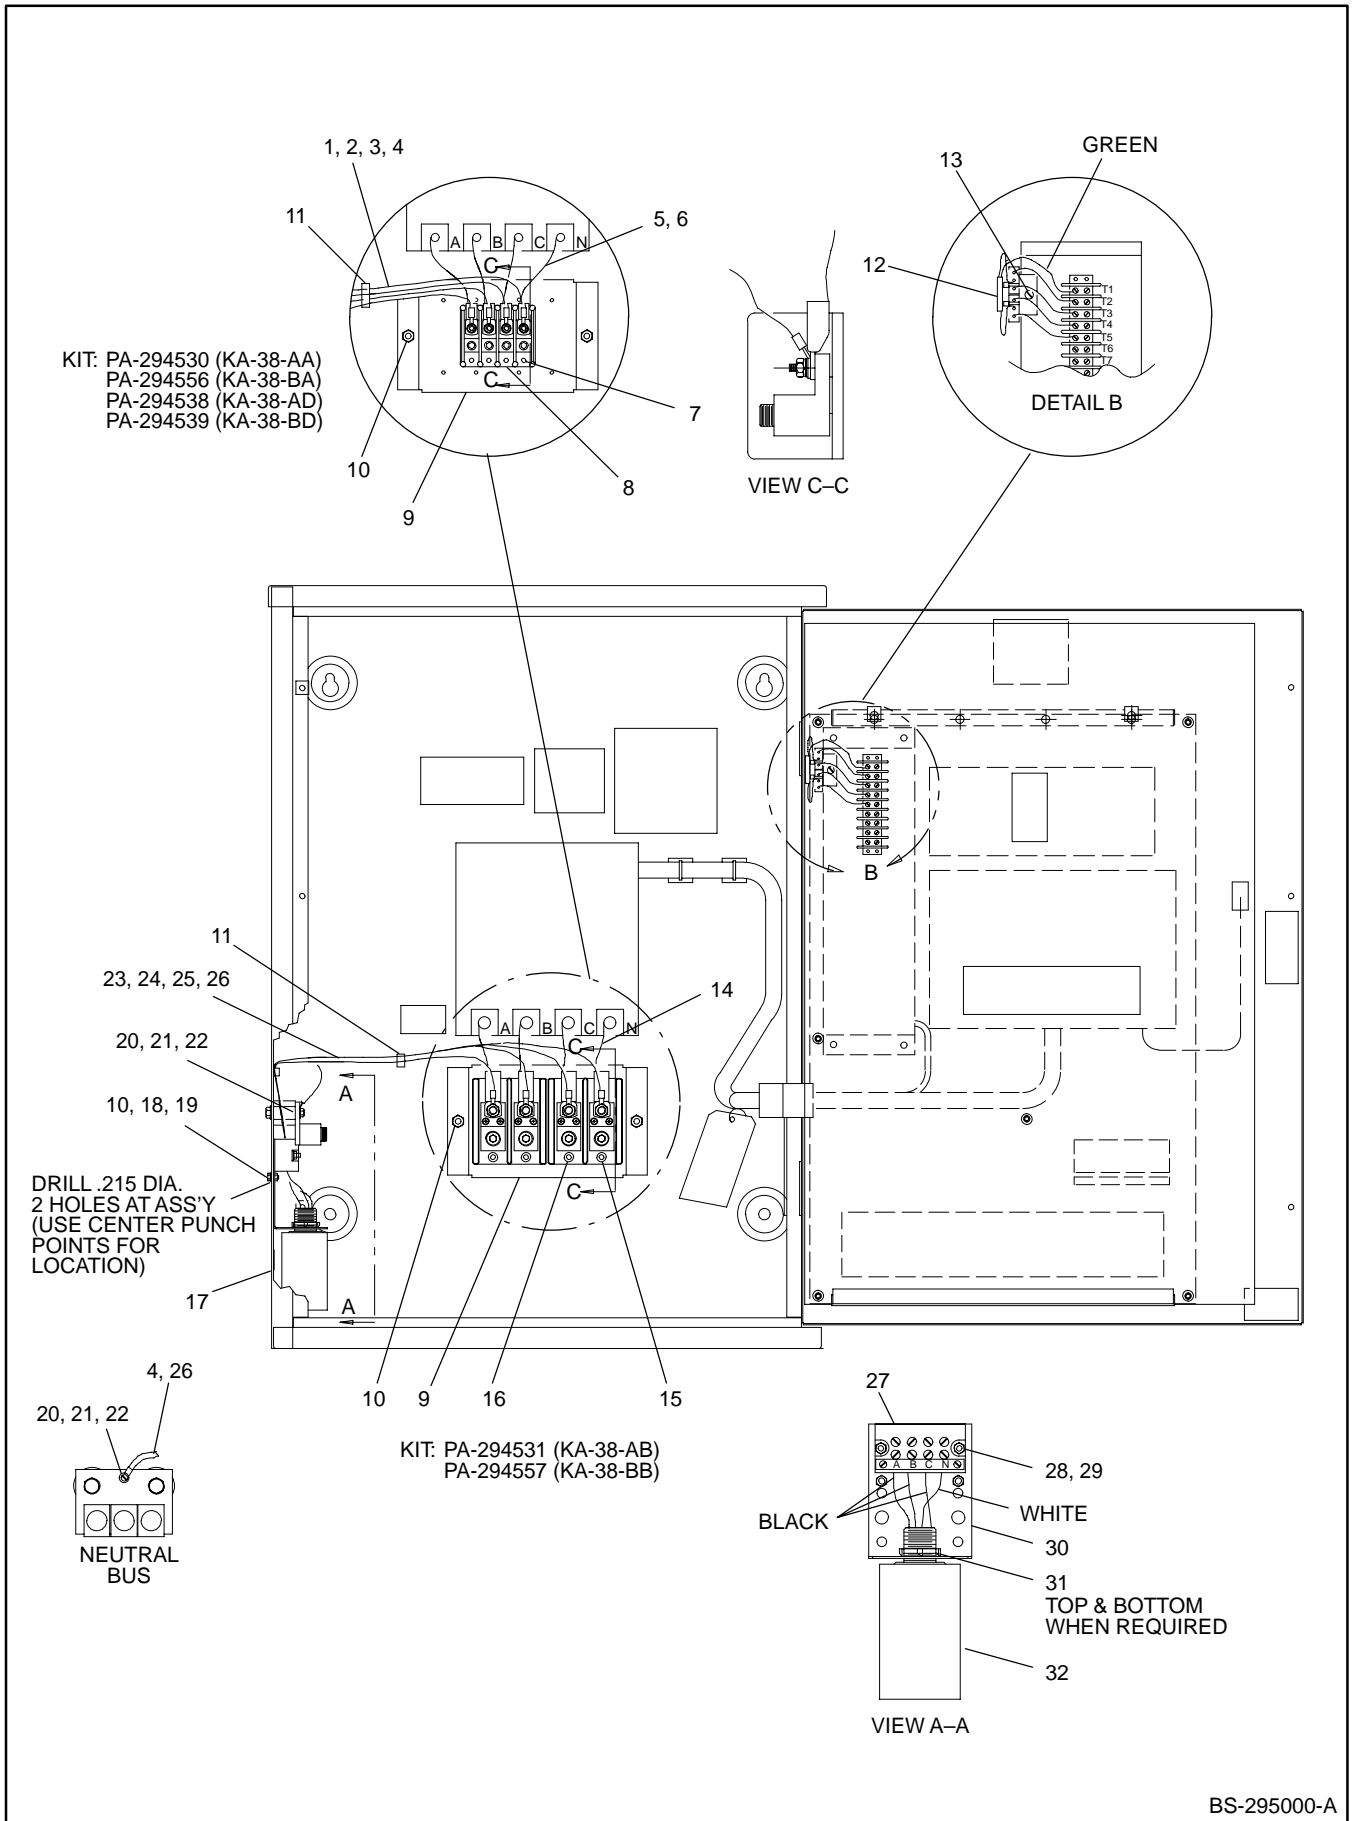

Figure 3. Assembly—30-104, 150 Amp
2. Install kit parts as shown in Figures 3, 6, 8, 10, and 12.
3. Drill two 0.219-in. (5.5-mm) diameter holes in the transfer switch enclosure at the location indicated in Figures 3, 6, 8, 10, and 12. Use center punch points for precise locations. These holes are used to attach the MOV mounting bracket to the enclosure.
7. Install remaining kit parts as shown in Figures 3, 6, 8, 10, and 12.
LEGEND—Figure 3. Assembly—30-104, 150 Amp